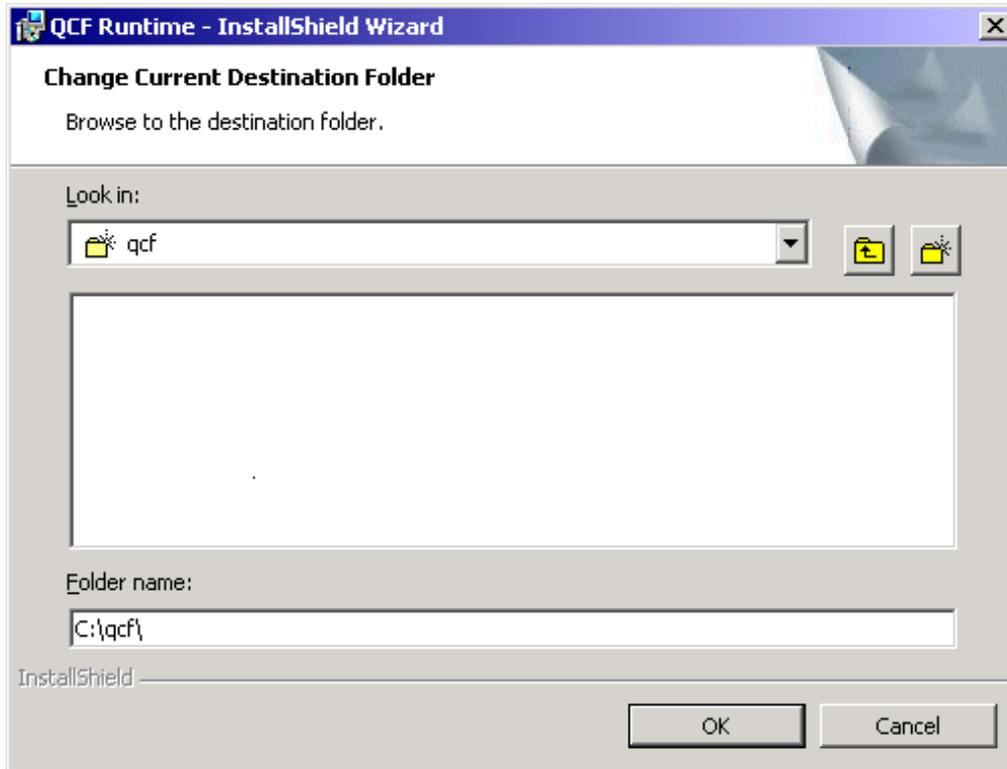

FIGURE 172. Changed destination
13. Replace the existing directory with c:\qcf\ so that it looks like Figure 172.